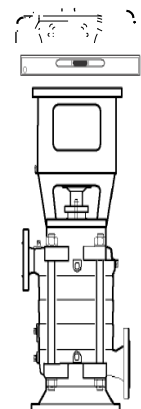

Fig.20
- level the pumps; in case of pump assembly on a common base, verify that the common base is flat through a level put on the delivery port (fig.20) or on the pump shaft.